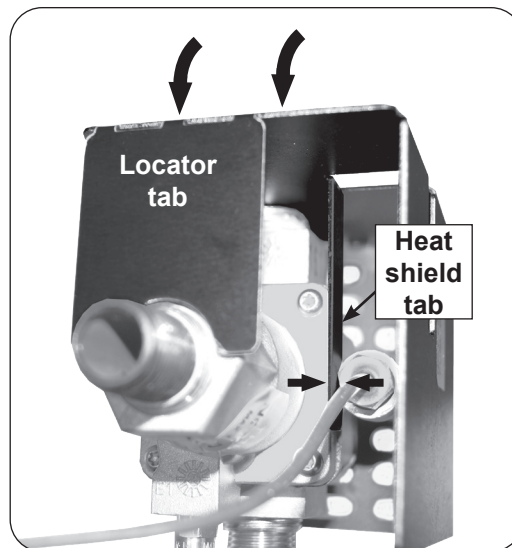

Fig. 6-2 Tab placement
2. Place the assembled heat shield over the safety control valve by inserting the valve stem through the hole of the heat shield face so the locator tabs rest on the valve system sleeve at the front of the valve and on the nipple in the rear of the valve. The heat shield tab will insert between the valve body and pilot supply line, keeping the heat shield in place. See Fig. 6-2